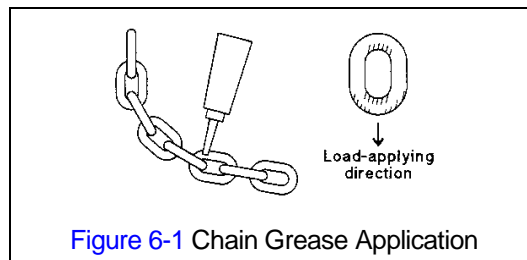

Figure 6-1 Chain Grease Application
- Apply Kito lubricating grease (Part No. E2R1951-001H) or an equivalent to industrial general lithium grease, NLGI No. 0, to the bearing surfaces of the load chain links as indicated by the shaded areas in Figure 6-1. Also apply the grease to the areas of the load chain (shaded areas in Figure 6-1) that contact the load sheave. Insure that the grease is applied to the contact areas in the load sheave pockets.